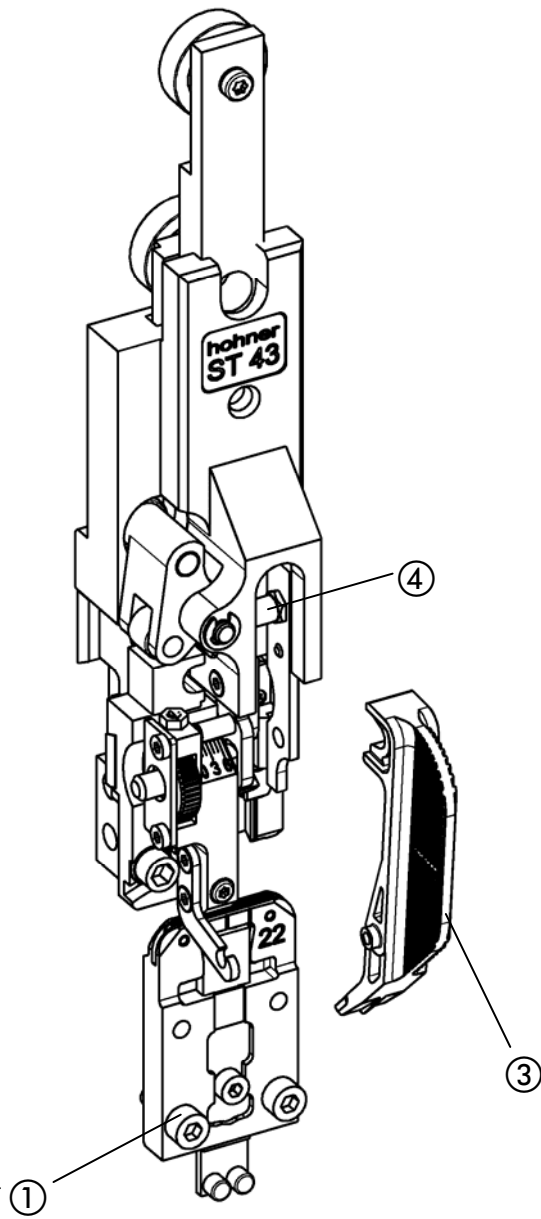

Fig. 7
- Fig. 7 -
- Remove the former (see page 35). Place gauge ③ on former locating pin ④ and rotate downwards towards the stop. In this position the clincher box can be precisely adjusted by aligning the gauge with the scale marks on the clincher box.
- Tighten c clamping screws ① and remove gauge ③. Replace former.